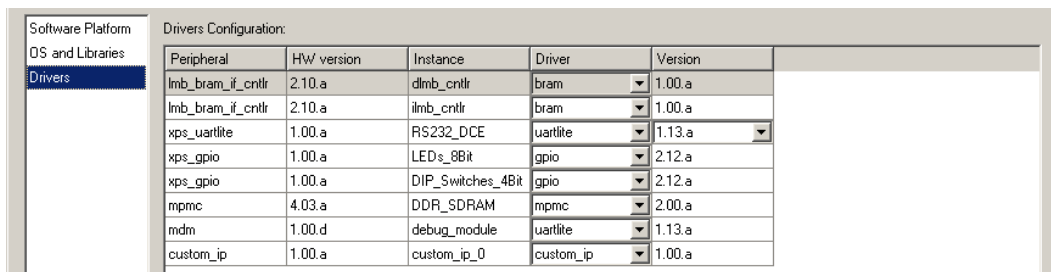

Figure 23: Drivers view
- **Select** the Drivers view. This view allows you to select the software versions for the peripherals in the system as shown in Figure 23. Notice that the driver version is independent of the HW version.